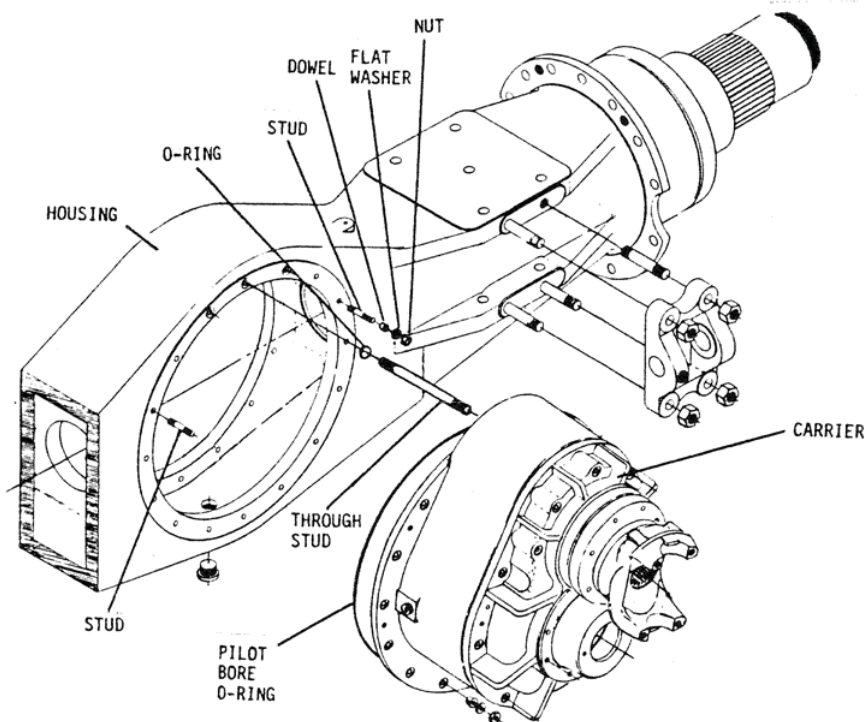

FIGURE 11
A. Drive Axle Housing Preparation - Figure 11.
B. Differential Carrier Preparation - Figure 11.
C. Differential Carrier Installation - Figure 11.